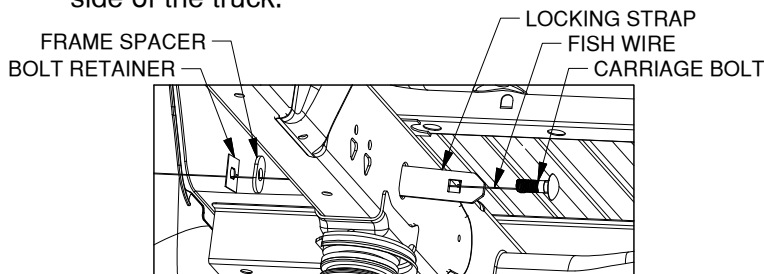

**Figure B2:** Detail view over bed, showing drill locations for the forward and rear mounting rails.
- 2. Mark hole locations.** While carefully ensuring the mounting rail does not move, use a center punch tool to mark the 5 drill locations on the rear rail. See Figure B2 for hole marking locations for this installation (forward rails will install in a later step). Once all 5 rear rail locations are clearly marked, move the bed rail out of the way and drill each location with an 1/8" drill bit.
4. **Drill forward mounting holes.** Using the same methods as used for the rear mounting rail, mark, drill, check, and enlarge the holes for the forward mounting rail. Start at "DRILL REAR MOUNTING HOLES" section, Step 2, on a previous page. Notice that the hole locations are slightly different than the rear rail, see Figure B2 (on the third page).